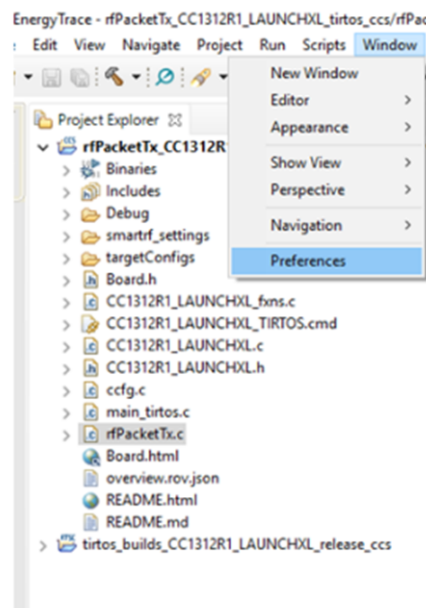

Figure 35. Preferences
3. EnergyTrace requires some configurations the first time it is being used within a CCS workspace. Go to the menu `Window` and select `Preferences` (see Figure 35).